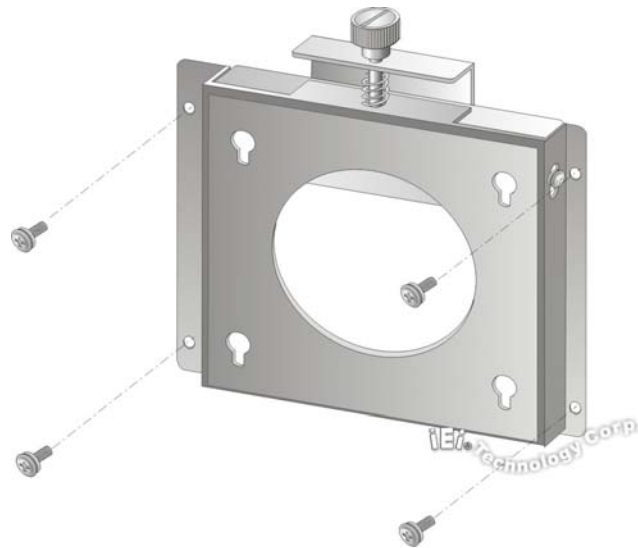

Figure 4-4: Wall-mounting Bracket
- Step 5:** Secure the mounting-bracket to the wall by inserting the retention screws into the four pilot holes and tightening them (**Figure 4-4**).